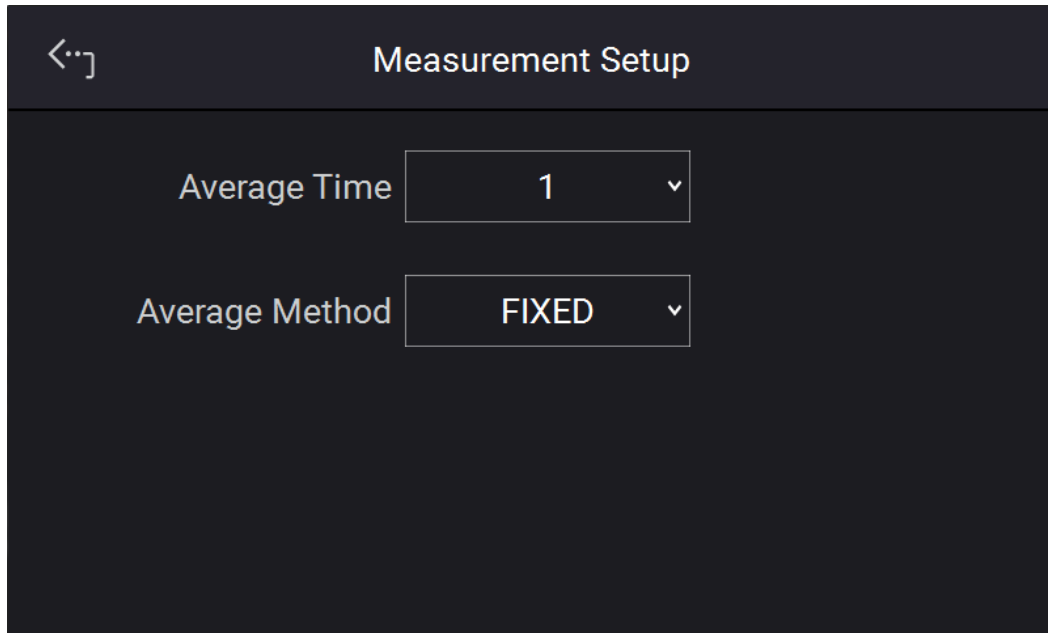

Figure 3-31
1. Tap Meas. Setting to enter into Measurement Setup as Figure 3-31 shows.